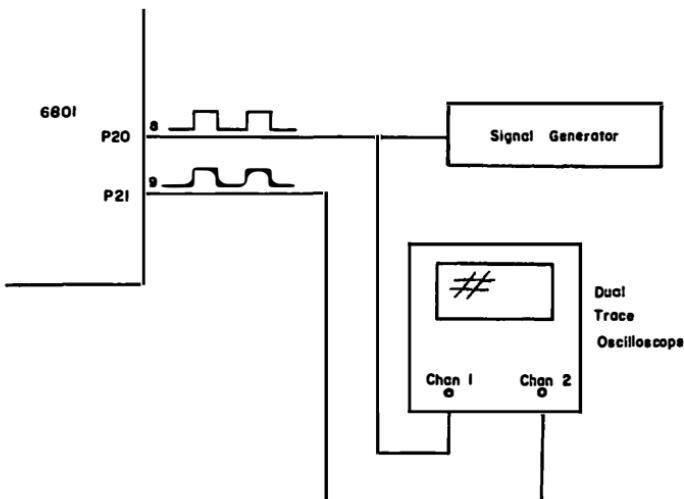

Fig. 6-6. Echo monitor circuit.
The circuit shown in Fig. 6-6 may be used to provide an input signal and monitor the output signal for the above program. The input square wave from the signal generator must have a period (T) of at least 64 MPU cycles for the program to respond properly.